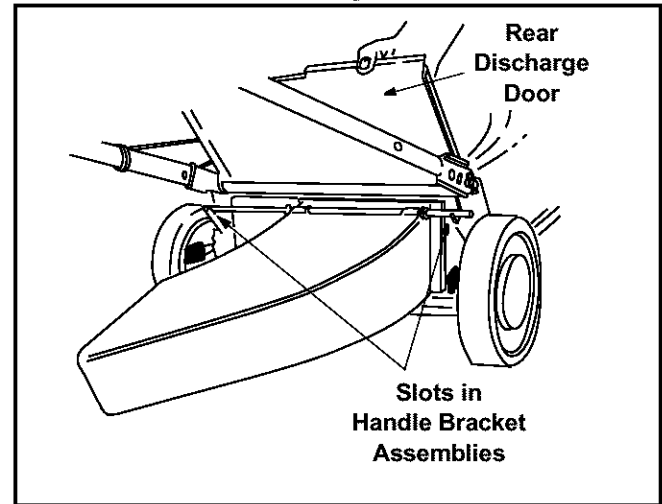

Figure 10
- Place the ends of the rod into the slots in the handle bracket assemblies. See Figure 10.